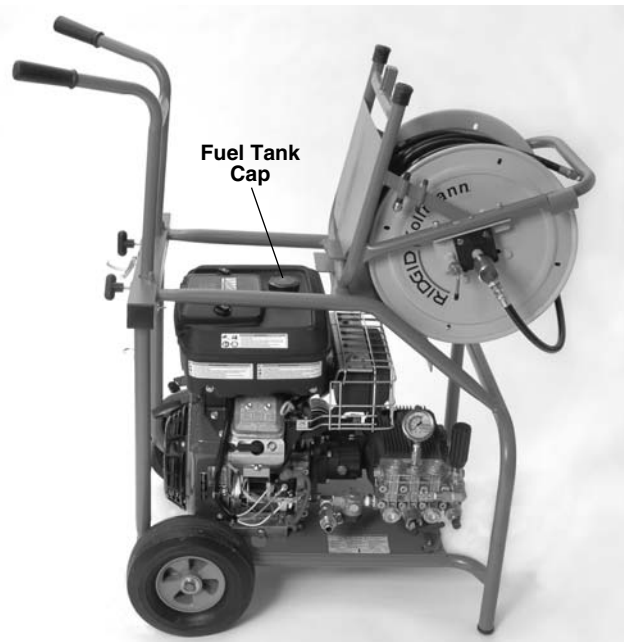

Figure 8 – KJ-3100 Fuel Tank Access
- Check engine fuel level. For the KJ-3100, disconnect the hose reel latch and rotate the hose reel forward until it rests on the frame to provide access to the engine gas cap *Figure 8*. If needed, add unleaded